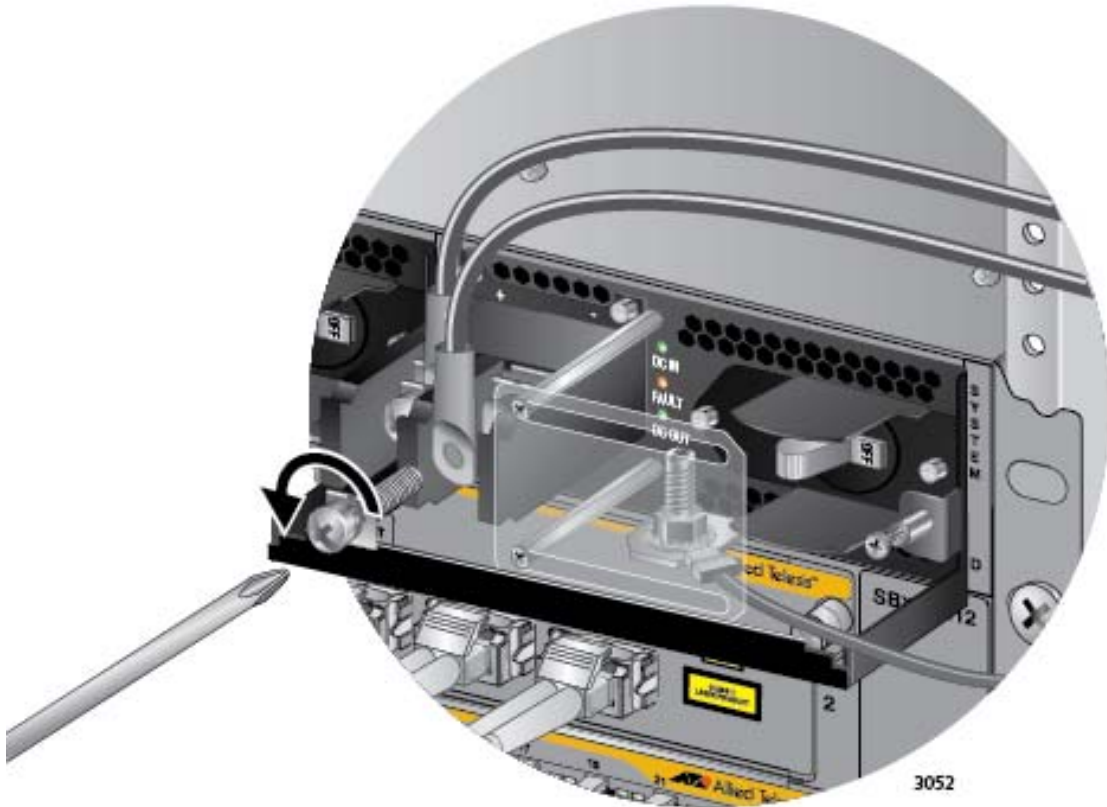

Figure 160. Removing the Negative Lead Wire
5. Use a #3 screwdriver to remove the negative (-) lead wire from the terminal block. The negative lead wire is on the right. Refer to Figure 160 on page 260.